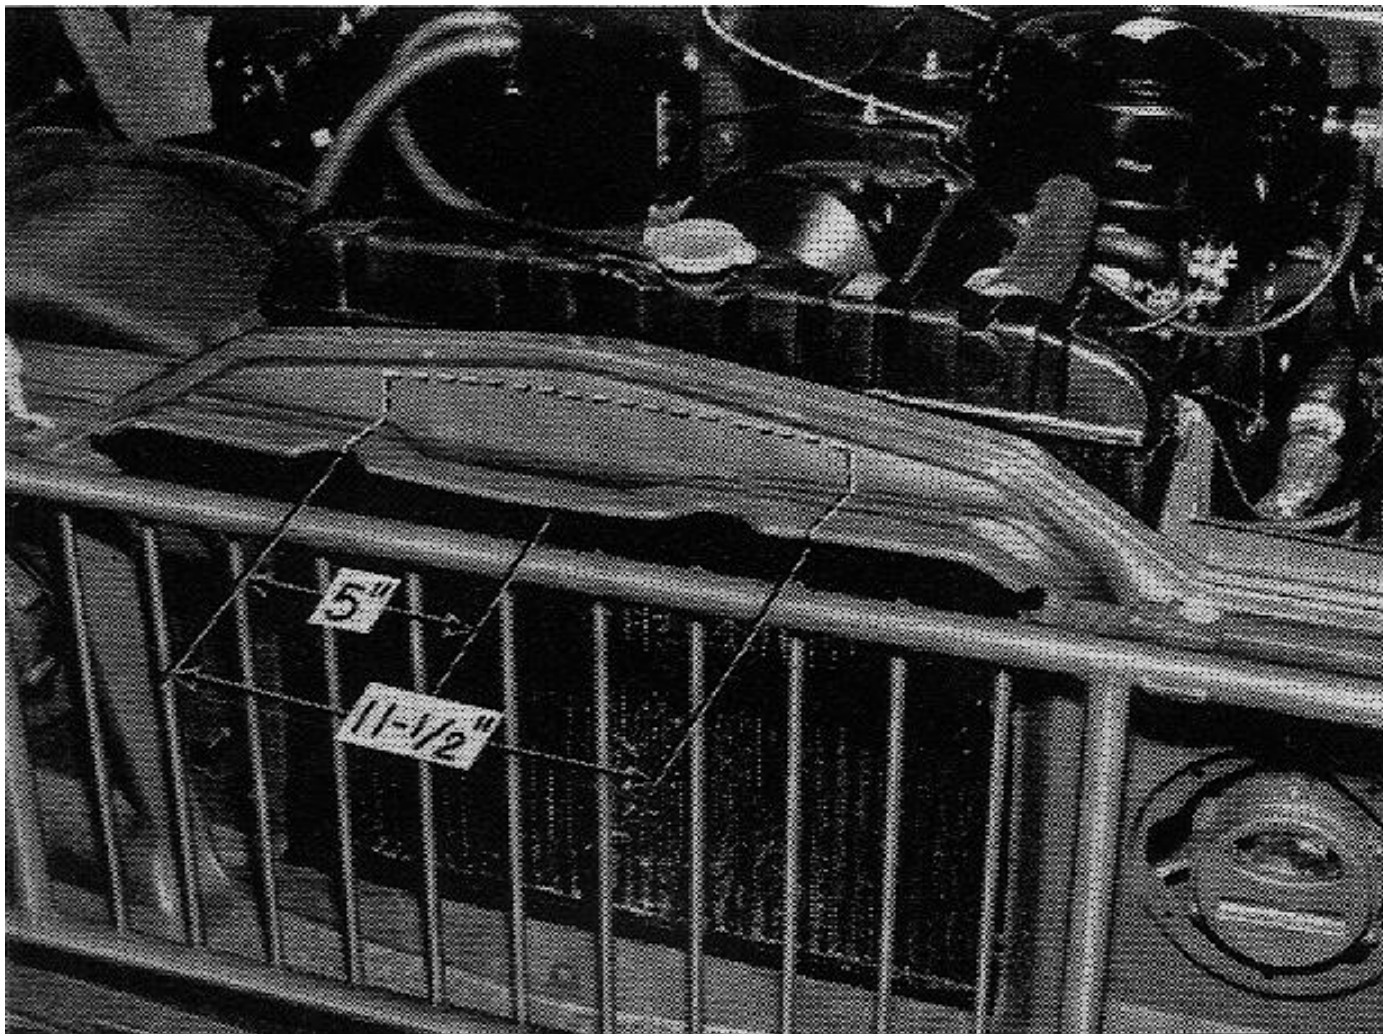

FIG. 33-E2- RECTIFIER MOUNTING LOCATION
a. Refer to Fig. 33-E2 and using scribe, lay out segment of baffle to be cut and removed. Remove brush guard.
- b. Cut material from baffle (see Fig. 33-E3).